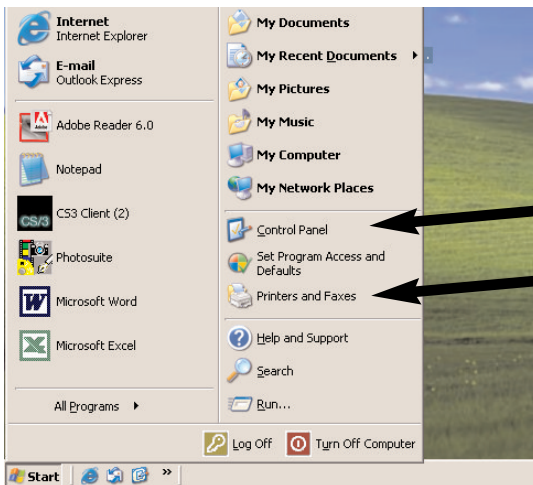

Figure 61. The start menu showing the CONTROL PANEL and Printers and faxes links.
2. The Start menu will be displayed (as in **Fig 61** below). Press the CONTROL PANEL link (arrowed).